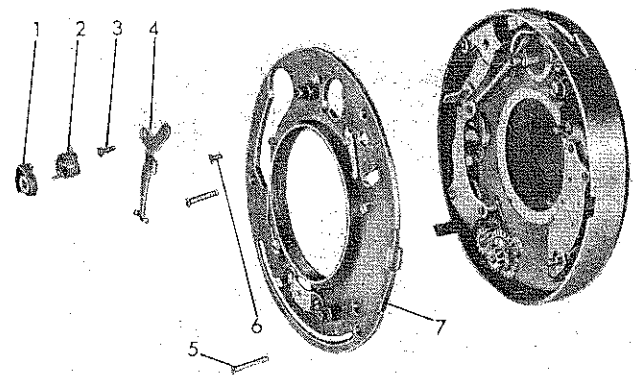

Figure 35—Cover Complete and Associated Parts, Exploded from Shutter Case
(c) Lift off the spring cam (2) and the high speed spring (2, figure 35).
(d) Remove the short cover screw (3) near the spring cam opening and the two long cover screws (8) toward the bottom of the shutter. Then lift off the cover complete (7, figure 35).